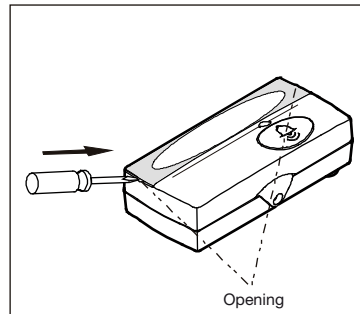

Fig. 7
6. After the door button is fitted, the transparent plastic on the top can be removed and if required you can write a name on number etc. on the label. The label and transparent plastic part are replaced. Figs. 7 and 8